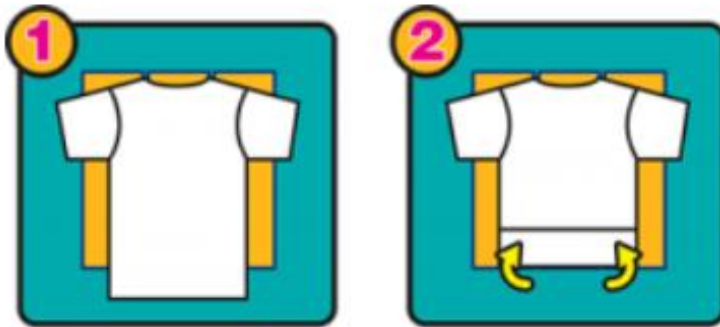

FIGURE 4-2 INITIAL POSITIONING AND FLAPPER 1 MOVING DIRECTION
3. The flappers move in sequential order, refer fig. 4.2- 4.4 for schematic folding process.